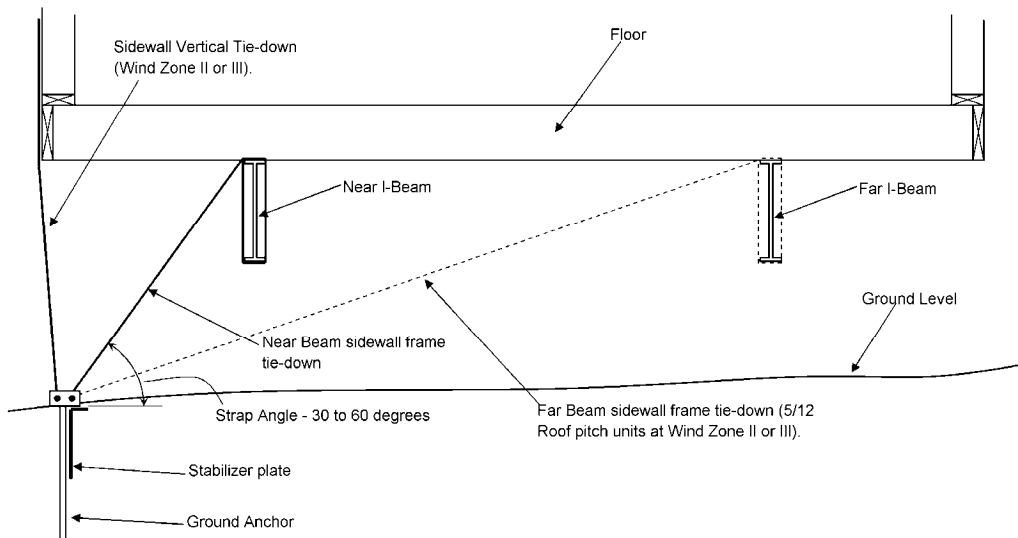

Figure 71. Lateral tie-down configurations
When straps are connected only to the near I-beam, (**Figure 71**) the angle the strap makes with the ground should be between 30 degrees and 60 degrees. Angles greater than 60 degrees may require closer anchor spacing.
- **Near Beam Method.** Connect an anchor strap from the anchor head to the beam closest to the anchor. (**Figure 71**). In addition for Wind Zones II and II, connect a vertical sidewall strap from the sidewall of the home to the anchor head using a double-headed anchor.
- **Far Beam Method.** Connect an anchor strap from the anchor head to the outside beam. (**Figure 71**). In addition for Wind Zones II and II, connect a vertical sidewall strap from the sidewall of the home to the anchor head using a double-headed anchor. The far beam method is only required for double wide units at Wind Zone II or III with a 5/12 roof pitch.